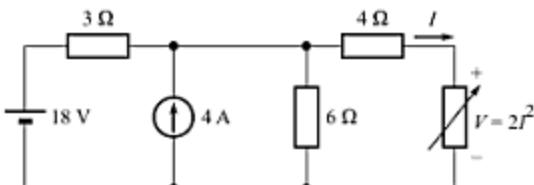

Fig. A-69
- A-27. Use repeated source transformation to obtain current  $I$  in the circuit of Fig. A-69. [Ans.  $2\text{ A}$ ]